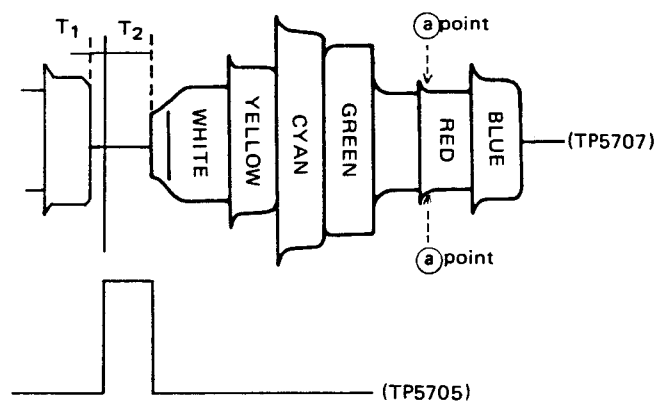

Figure 62.
2. Connect an oscilloscope to TP5707 and TP5705, and check that the output of chroma signal is as shown in Fig. 62.
Adjust T5702 so that the output at the point (a) is as shown in Fig. 62.